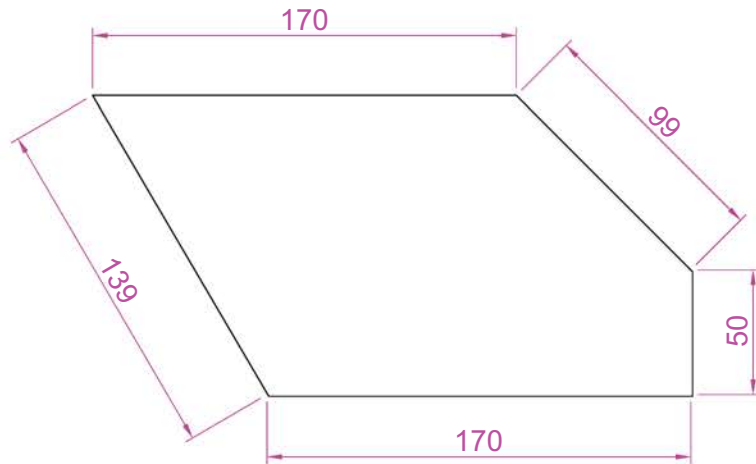

Fig. 12.11 Second example – Aligned dimension
1. Construct the outline Fig. 12.11 using the **Line** tool.